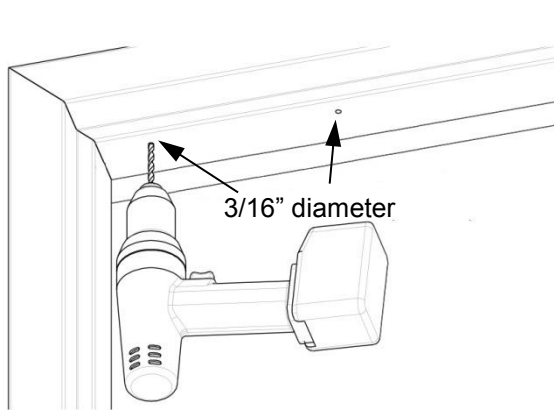

Figure 16. Drilling the Mounting Holes
1. DRILL two (2) $\frac{3}{16}$ " diameter mounting holes by $1\text{-}\frac{1}{4}$ " deep at bracket-mounting hole marks (see Figure 16, "Drilling the Mounting Holes").